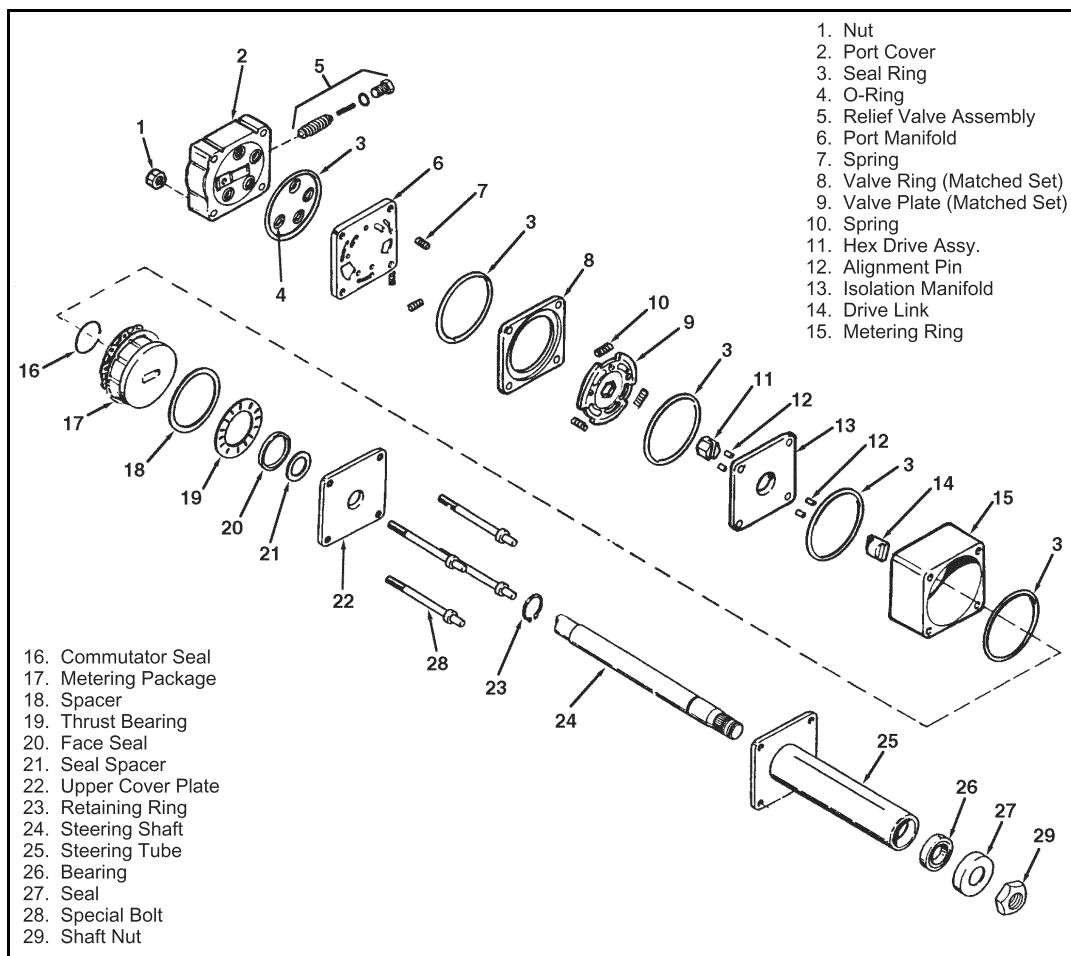

Figure 6C-2. Steering Unit Exploded View
7. Remove the drive link (14) and metering ring (15), see Figure 6C-2.
8. Remove the metering package (17) and commutator seal (16), see Figure 6C-2. The metering package is serviced as an assembly kit. Refer to the parts manual.